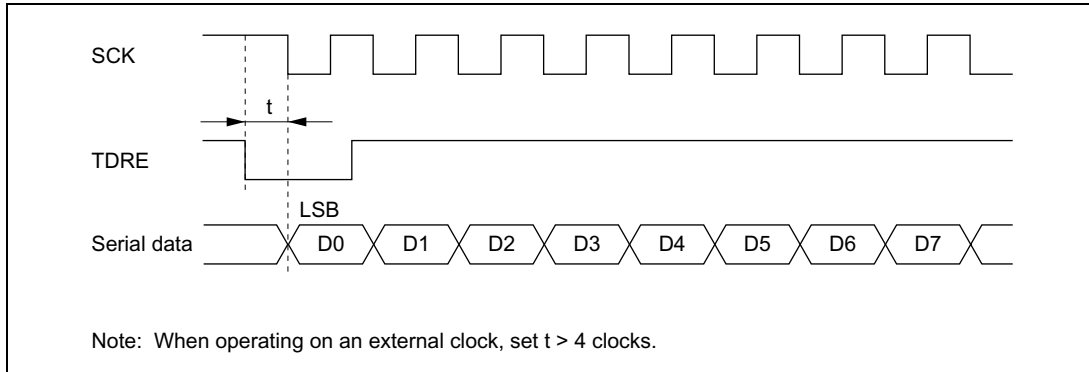

Figure 14-22 Example of Synchronous Transmission Using DTC
- When an external clock source is used as the serial clock, the transmit clock should not be input until at least 5 ϕ clock cycles after TDR is updated by the DMAC* or DTC. Misoperation may occur if the transmit clock is input within 4 ϕ clocks after TDR is updated. (Figure 14-22)